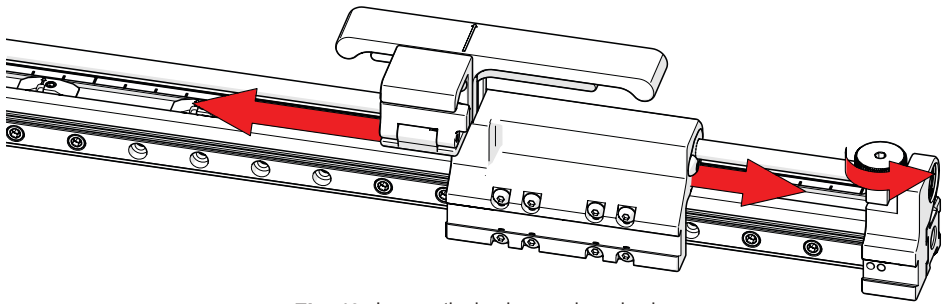

Fig. 19 - Loosen the leadscrew clamp knob
1. Loosen the leadscrew clamp knob (*Fig. 19*) to allow movement of the carrier along the frame bar.